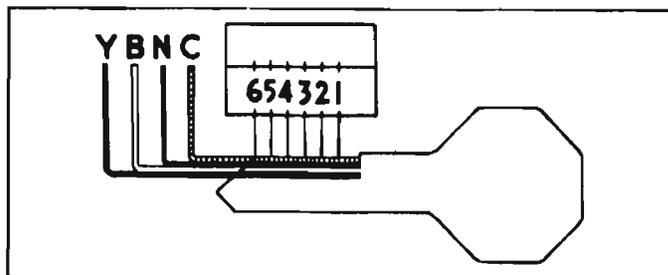

Fig. 1-13—Tumbler requirement diagram.
In cases where a code book is not available, the diagram as shown in figure 1-13 may be used to determine the tumblers required to assemble an uncoded lock cylinder.
1. Lay the key on the diagram (fig. 1-13) with the bottom of the key flush with the edge of the drawing, head and point carefully lined up.